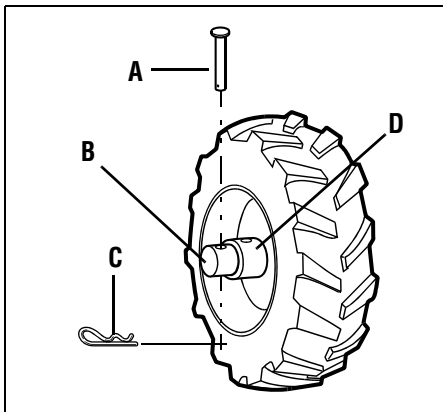

Figure 3-3: FREEWHEEL position.
5. FOR FREEWHEEL MODE (Figure 3-3): Slide the wheel inward and insert the Clevis Pin (A, Figure 3-3) secured by the cotter pin (C) only through the hole in the wheel shaft (B). Repeat for the other wheel and then remove the support from beneath the transmission.